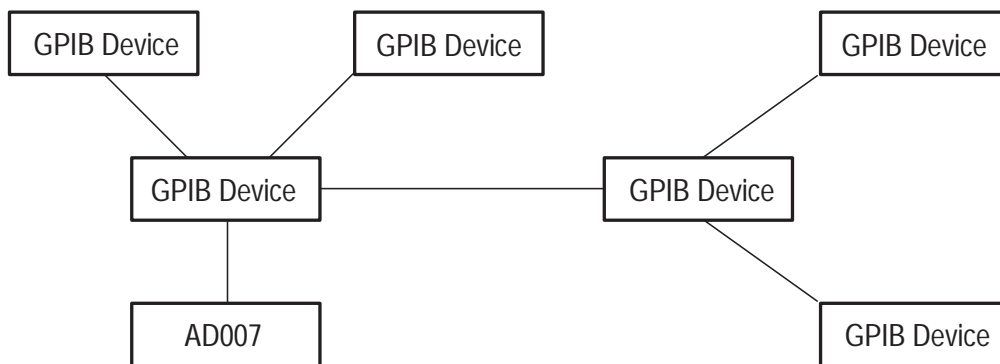

Figure 7: Typical GPIB Network Configuration
- Configure the devices on the system as shown in Figure 7. Do not use loop or parallel configurations.